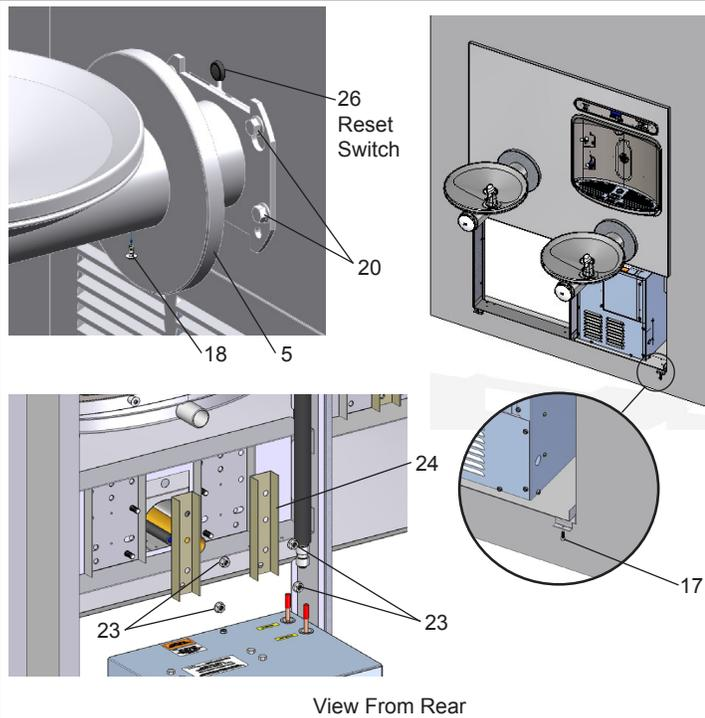

Figure 4 - Fountain Installation
7. **Install** reset switch for bottle filler (Fig. 4). Snap the switch into position after locating wires through slot. Wrap up the excess cord.
8. **Install** fountains with (8) 5/16-18 HHMS & (8) 5/16-18 nuts (provided) (Fig. 4). Connect the 1/4" water lines from each fountain to the remaining openings on the tee at the remote chiller (cut lines to fit as needed).
16. **Install** the bottom panel, tighten screws (Fig. 4).
- 1) To access the program button, remove #8-32 screw, pull back cover plate on lower fountain arm (Fig. 4). Reset button is located above fountain arm.